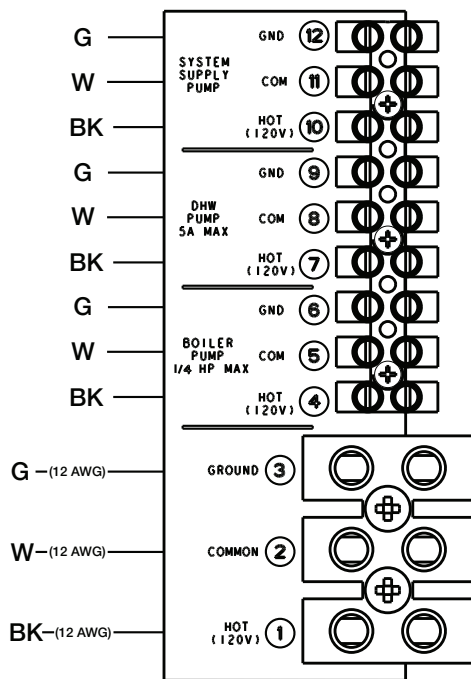

Fig. 24: X Pak FT Cascade Master Pumps
1. On the boiler designated as the Master, connect the system pump wiring to the terminal block at the rear of the unit. Connect to terminals 10, 11, and 12 (See Fig. 24). The output is rated for pilot duty only (2A maximum).
2. Connect the boiler pump wires to the terminal block at the rear of their unit. Connect to terminals 4, 5, and 6 (See Fig. 24).
2. For each follower boiler, connect the boiler pump wires to the terminal block at the rear of each unit. Connect to terminals 4, 5, and 6 as shown in Fig. 24.